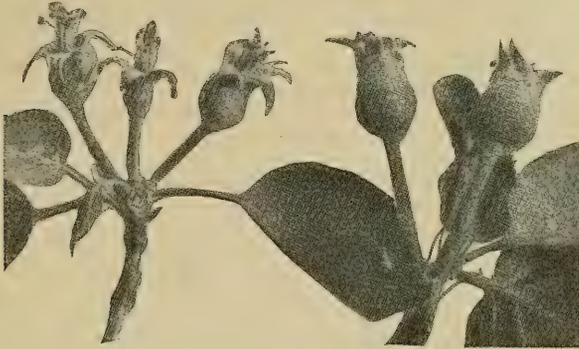

Fig. 183.—Shows a cluster of young apples.
10. Calyx condition. Fig. 183.